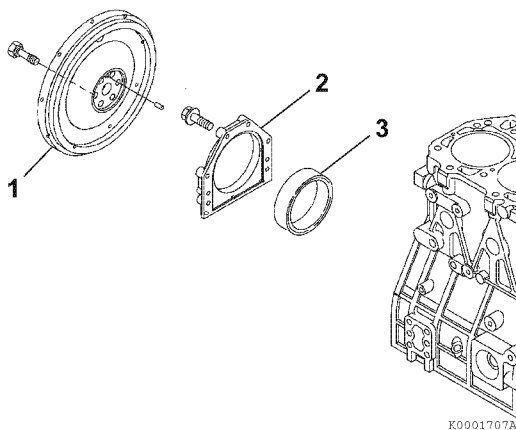

Figure 6-56
1. Remove the flywheel (**Figure 6-56, (1)**) from the crankshaft.
2. Remove the bolts from the rear oil seal assembly (**Figure 6-56, (2-3)**). Remove the assembly from the engine.